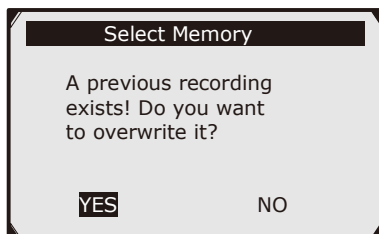

Figure 5.23
- If you select a location marked with an asterisk (*) icon, a message prompting to overwrite old recording is displayed. (See **Figure 5.23**)